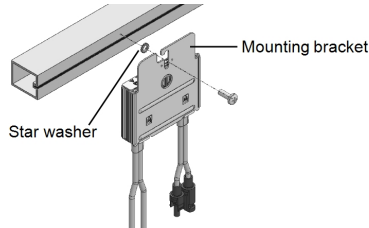

Figure 6: Power optimizer installation and grounding using a star washer
- Determine the power optimizer mounting location and use the power optimizer mounting brackets to attach the power optimizer to the support structure (See *Figure 6*). It is recommended to mount the power optimizer in a location protected from direct sunlight. For frame-mounted power optimizers follow the instructions supplied with the optimizers, or refer to [https://www.solaredge.com/sites/default/files/installing\\_frame\\_mounted\\_power\\_optimizers.pdf](https://www.solaredge.com/sites/default/files/installing_frame_mounted_power_optimizers.pdf).